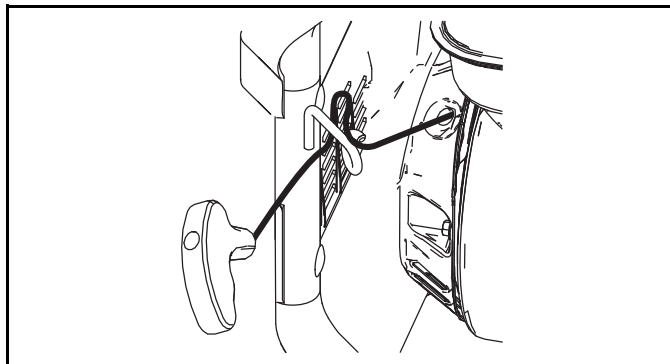

Figure 4-7. Recoil Rope Hook
7. Place recoil rope into holder as shown (Figure 4-7).